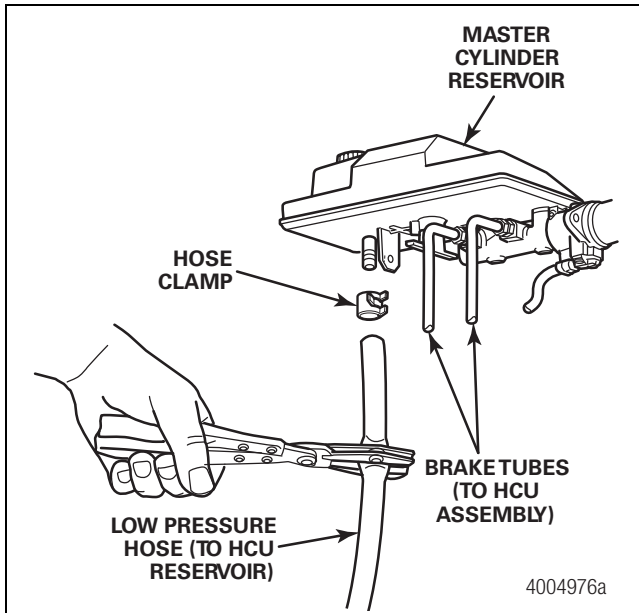

Figure 4.38
- 10. Disconnect the low pressure hose from the master cylinder reservoir. All of the fluid coming out of the master cylinder reservoir, approximately one gallon (3.4 liters), should drain into the container. Remove the cap from the master cylinder reservoir to improve the draining process. Plug the low pressure hose to prevent system contamination. Figure 4.38.